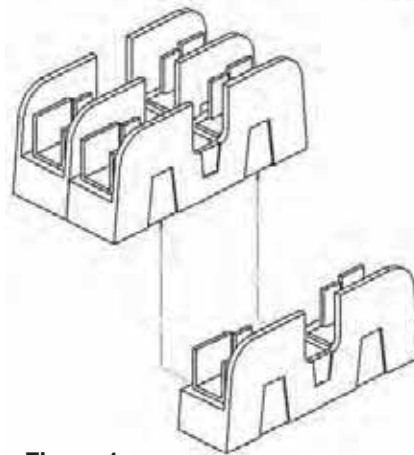

Figure 1
- To attach secondary fuse kit PL to primary fuse kits PL thru PL snap the secondary single pole fuse block onto the unlabeled side of the primary double pole fuse block. (See Figure 1)
- Connect the female quick-connect of the lumpers supplied to one of the male quick-connects of the secondary fuse block (one lumper to each end of the fuse block. (See Figure 1)